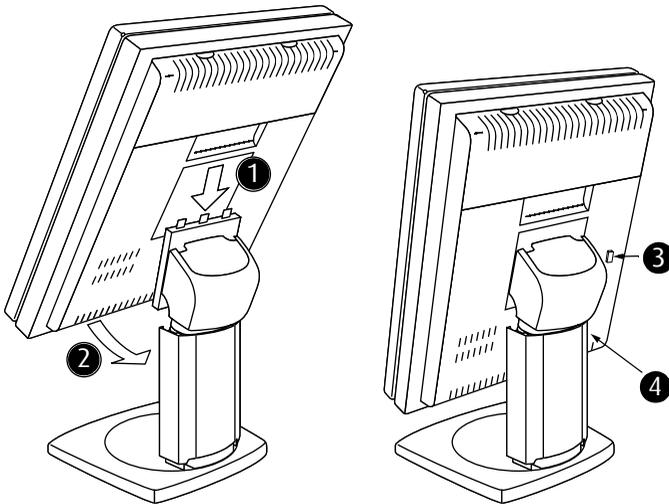

Figure 16: Attaching the panel to the display stand
3. Hook the top gaps in the rear of the panel over the top anchors of the stand attachment plate (1). see figure 16.
4. Push the bottom of the panel firmly towards the stand so that the bottom anchors clip in the bottom gaps (2).